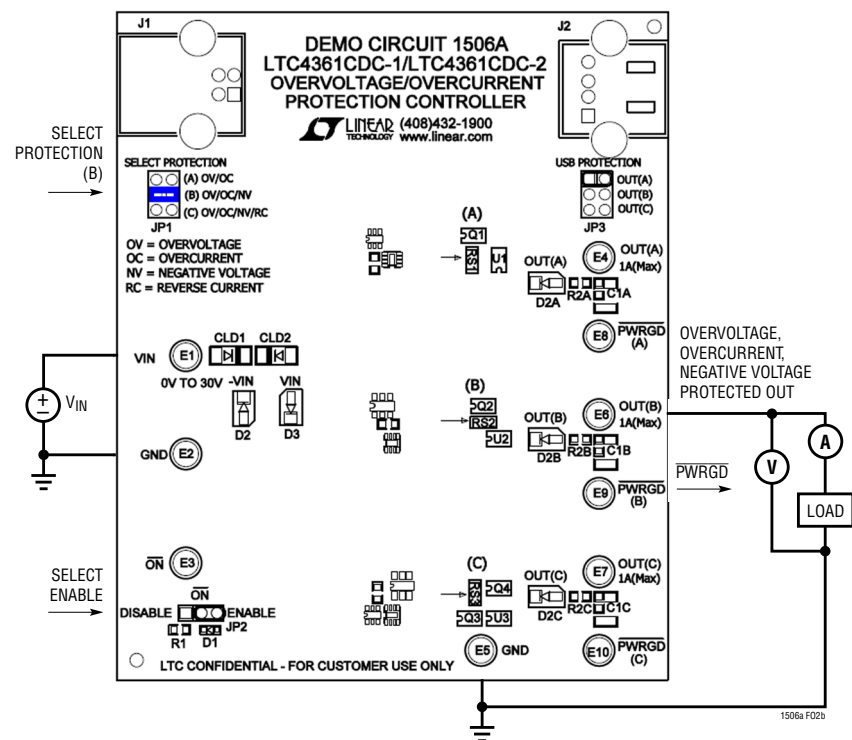

Figure 2b. DC1506A Protection (B) Setup for Overvoltage, Overcurrent and Negative Voltage
- b. For overvoltage, overcurrent and negative voltage protection select (B) OV/OC/NV and connect to OUT(B). Figure 2b.